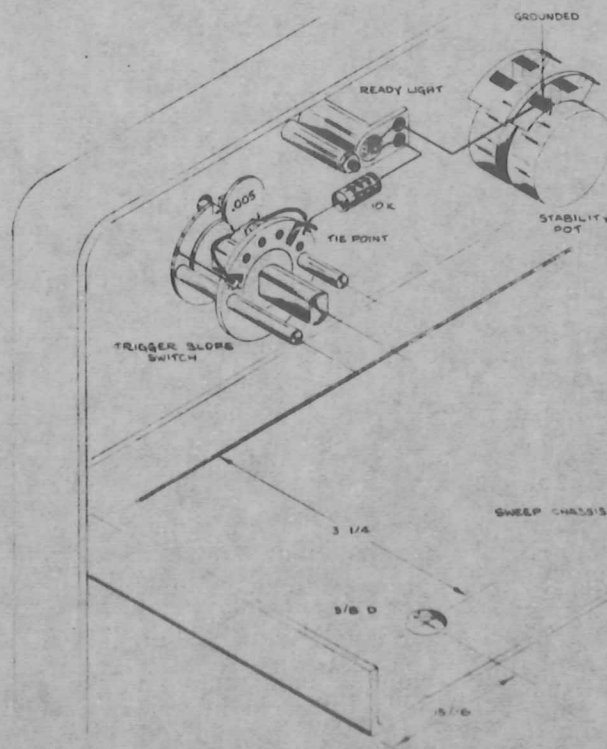

Fig. 2
- () 5. Drill a 3/8 in. hole in the sweep chassis, located as shown in Fig. 2.